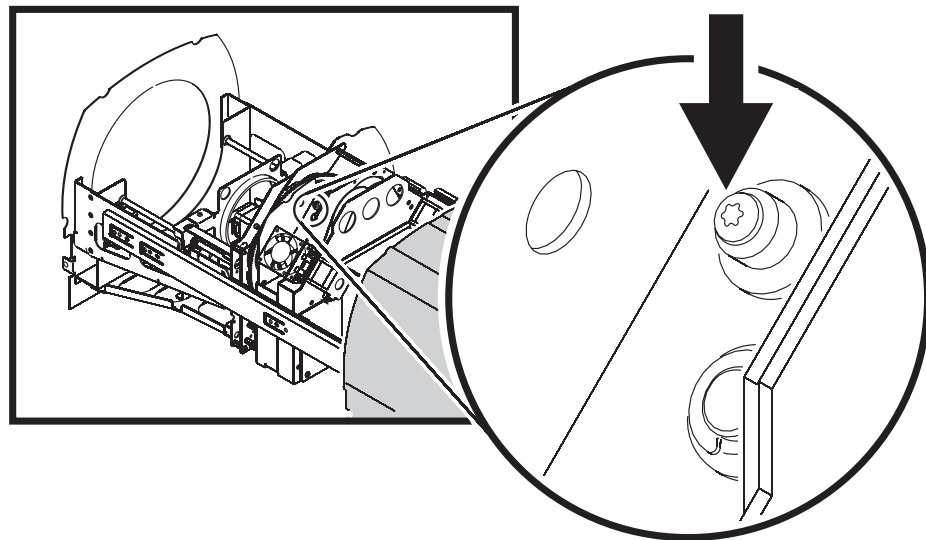

Figure 31: Accessing the gobo animation wheel
2. See Figure 31. If necessary, move the gobo animation wheel upwards and outwards to make access easier by turning the manual positioning screw (arrowed) clockwise until the wheel is at the uppermost limit of its travel.